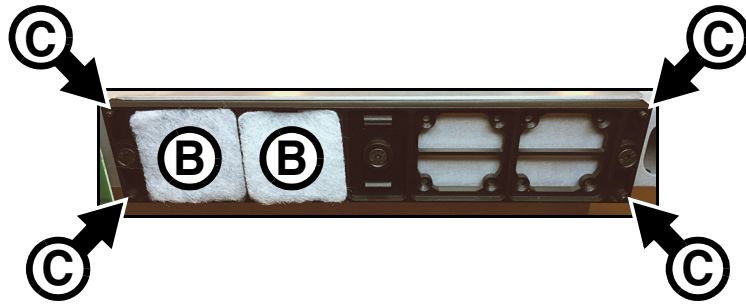

Figure 12: Replacing air filters, P3-050 / P3-150
3. See Figure 12. Remove the used filters **B** and insert the new filters in their place.